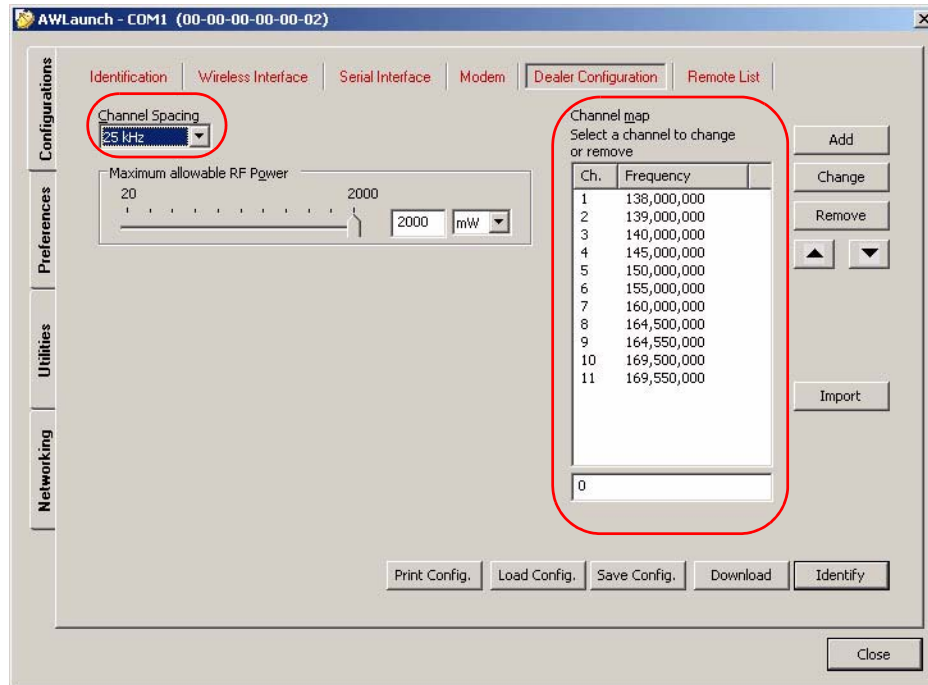

Figure 2-8. Dealer Configuration tab
7. In the *Dealer Configuration* subtab set the frequency and channel spacing (Figure 2-8 on page 19). To save the changes click *Save Config.* button.